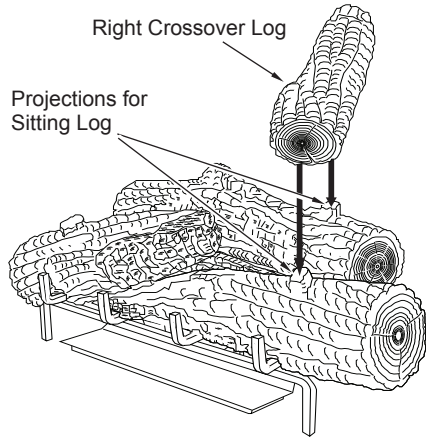

Figure 53 - Installing Right Crossover Log
5. Place the right crossover log onto the rear log and the right front log as shown in Figure 53. The right crossover log has notches in the bottom that will line up with the projections on the rear log and the right front log.